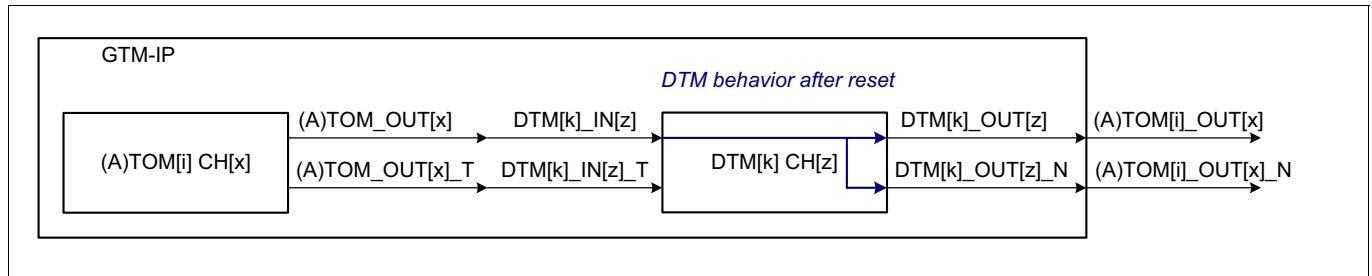

Figure 104 DTM behavior after reset
In case of a DTM behind a TOM or ATOM, the outputs (A)TOM_OUT and (A)TOM_OUT_T are connected to DTM inputs DTM_IN and DTM_IN_T . The outputs of the DTM are routed directly to the top level of GTM. The behavior of DTM after reset is shown in Figure 104.